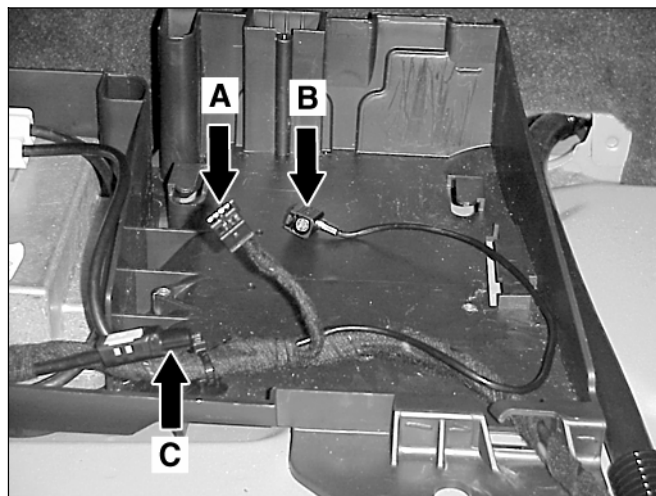
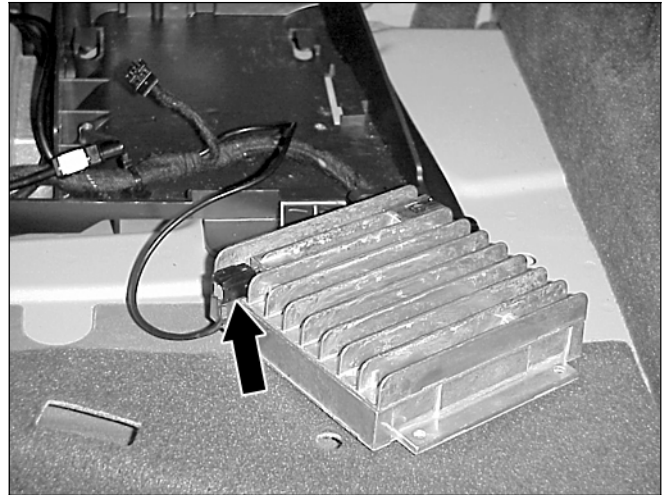

Figure 3
Figure 4
- Compensator power cable (A, Figure 3)
- Antenna coaxial cable female connector (B, Figure 3)
- Harness coaxial cable male connector (C, Figure 3)
4. Place the linear compensator near its point of installation and connect the antenna coaxial cable female connector (B, Figure 3) to the linear compensator jack labeled "ANTENNA" (Figure 4).